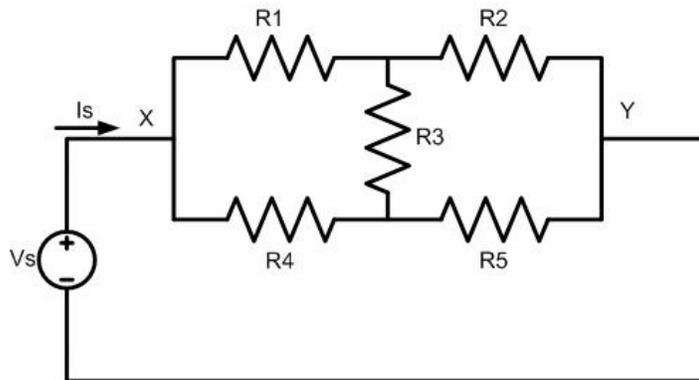

Fig 2-6: Delta combination
**7. Delta combination circuit:** (See Figure 2-5). An example of a delta combination circuit is shown in Figure 2-6. The analysis of this type of circuit is accomplished either by mesh analysis or by using  $\Delta$  to  $Y$  Transformation formulas listed below. This technique will simplify the circuit to a simple series-parallel combination circuit that can be solved easily.